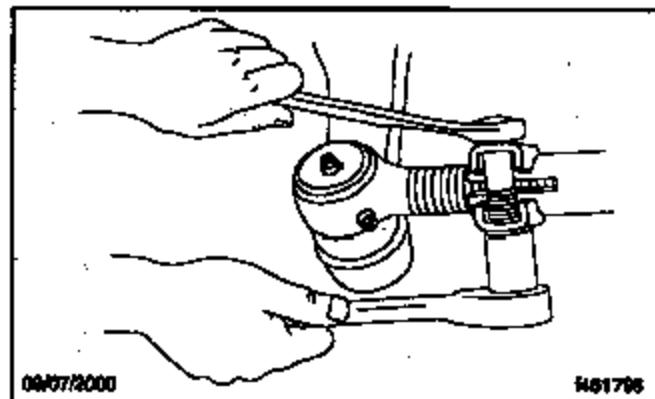

Fig. 4, Loosen the Bolts and Nuts on the Cross Tube Clamp
1. Loosen the bolts and the nuts on the cross tube clamps. See Fig. 4.